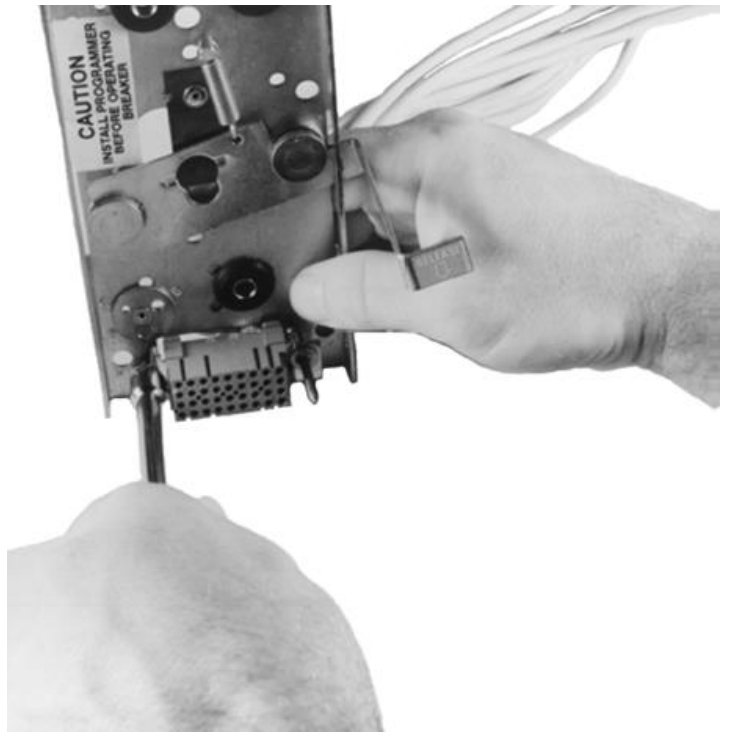

Fig. 1d. Installing Push Nuts
Slide the adapter bracket and connector assembly over the guide pins of the programmer bracket. Press the two (2) steel push nuts provided onto the guide pins using a nut driver until the assembly is held firmly against the programmer bracket (Fig. 1d).